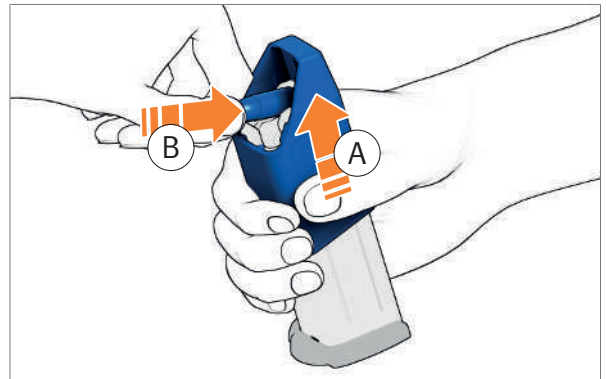

Fig. 51: Pushing cartridge to the rear
4. Lift loading aid (Fig. 51).
5. Push cartridge all the way to the rear (Fig. 51).